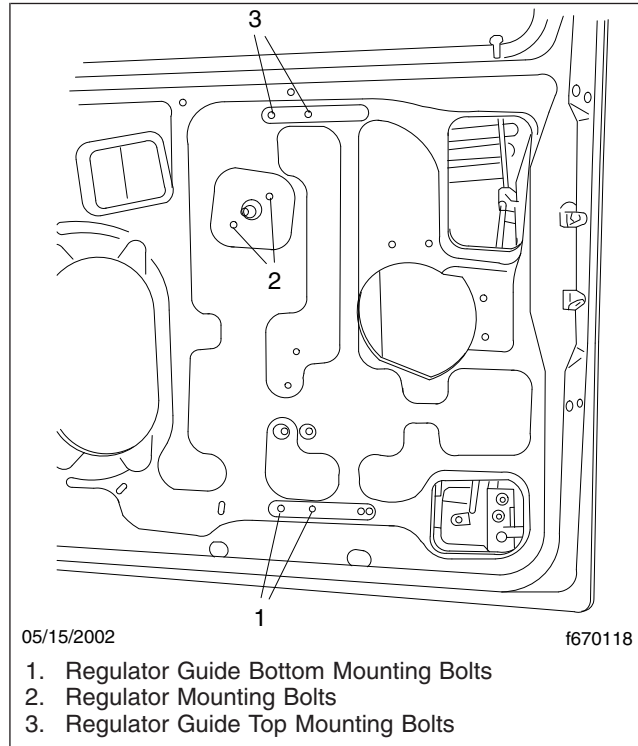

Fig. 10, Regulator Mounting
17. Remove the window regulator by removing the six mounting bolts. See Fig. 10. Remove and discard the spacer as the top bolts are removed. Slide the window regulator out of the visibility window access hole in the inner door panel.
5. Insert the regulator in through visibility window access hole, then attach them to the door panel with the mounting bolts. Torque to 84 lbf-in (949 N-cm). See Fig. 10.